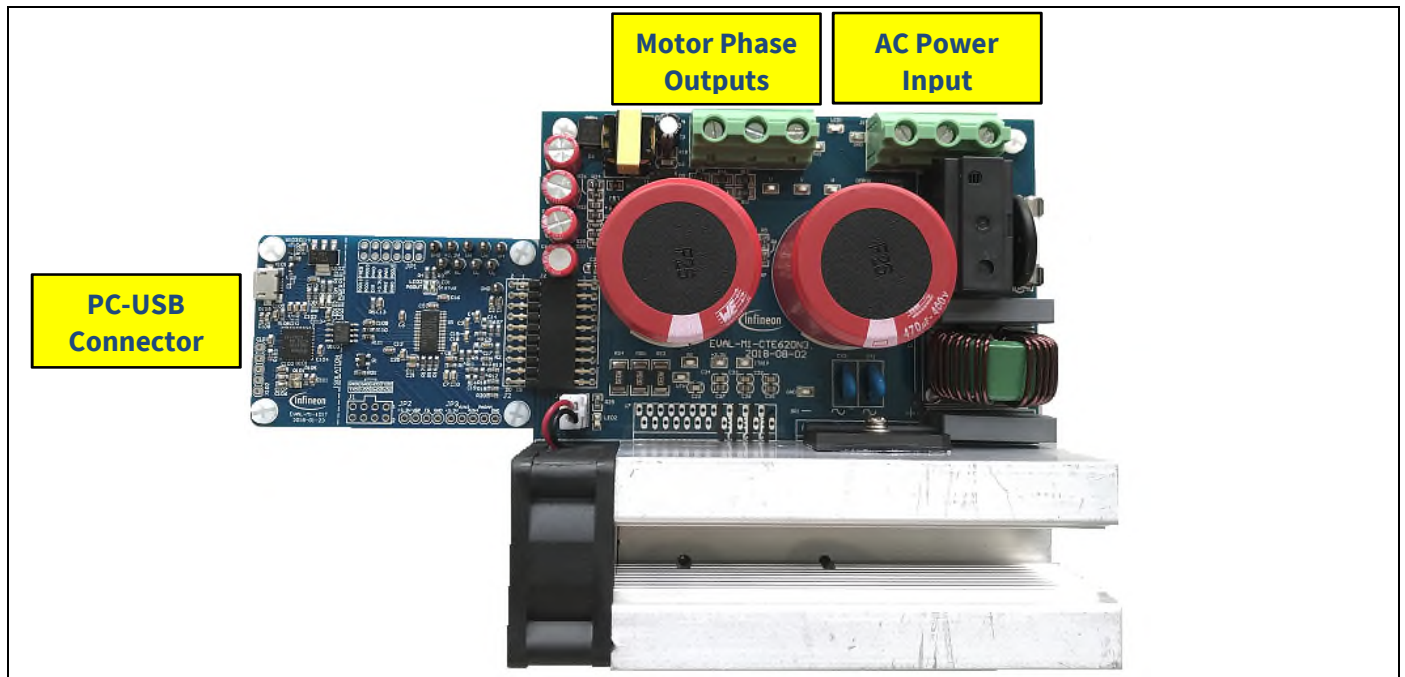

Figure 5 System connection example using EVAL-M1-CTE620N3 and EVAL-M1-101T
Figure 5 shows the system connection using EVAL-M1-CTE620N3 and control board (used control board EVAL-M1-101T for example).
2. Connect EVAL-M1-CTE620N3's MADK M1 20-pin interface connector (J2) to control board (see Figure 5).